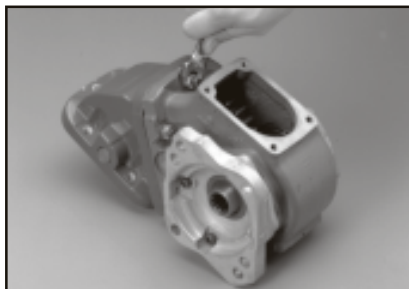

Fig. 7
7. Bench mount the adapter to the P.T.O. Install the appropriate length studs in the adapter body. (See Fig. 7.)